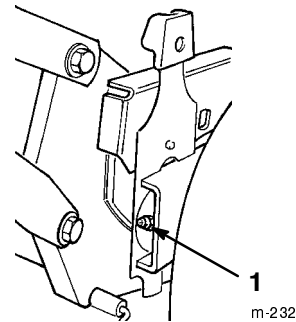

Figure 25
2. Wipe the grease fittings with a clean rag (Fig. 25).
3. Install a grease gun onto the fitting and gently apply two or three pumps of #2 multi-purpose lithium base grease (Fig. 25).